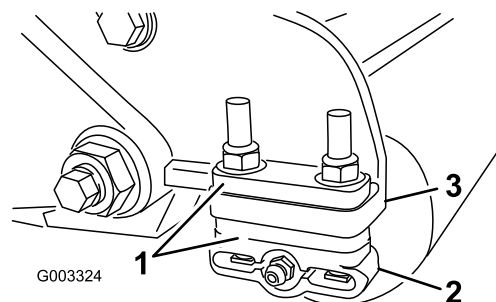

Figure 13
1. Adjust the rear roller brackets (Figure 13) to the desired height-of-cut range by positioning the required amount of spacers below the side-plate mounting flange (Figure 13) per the HOC Chart.